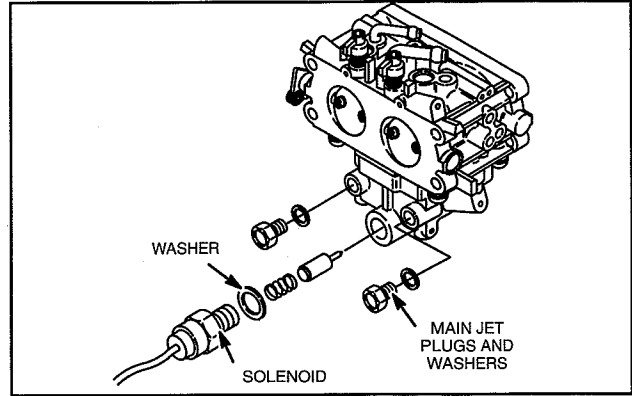

Fig. 42 – Remove Solenoid
2. Remove fixed main jet plugs with washers, Fig. 42.